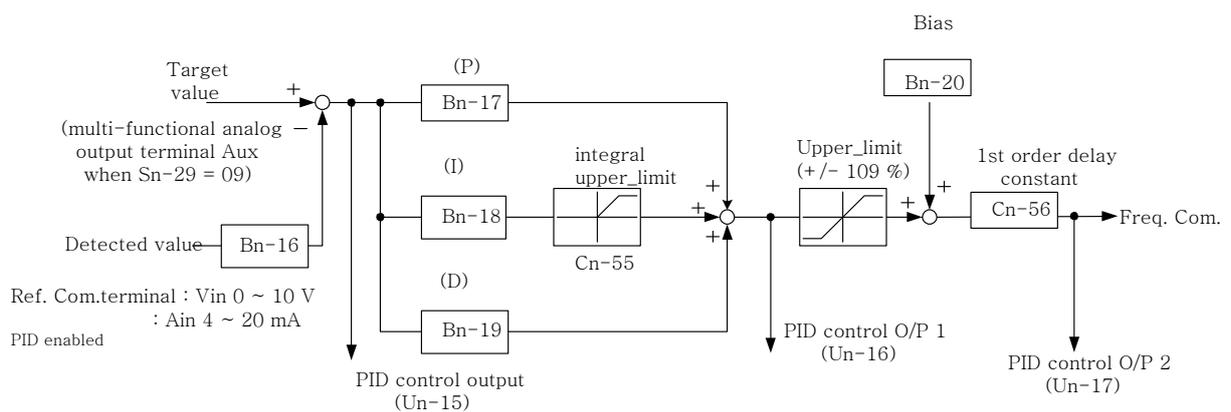

Fig 14 Block diagram for PID control in inverter
(14) Multi-function Analog output A01 gain (Bn-14)
(15) Multi-function Analog output A02 gain (Bn-15)
(16) PID detection gain (Bn-16)
(17) PID Proportional gain (Bn-17)
(18) PID integral time (Bn-18)
(19) PID differential time (Bn-19)
(20) PID Bias (Bn-20)
- The PID control function matches a feedback value (i.e., a detected value) to the set target value. Combining the proportional (P), integral (I) and derivative (D) control make the control possible to achieve required response by constant setting and tuning procedure of proportional gain (P), integral time (I) and derivative time (D).
- Fig 14 is a Block diagram of the inverter's internal PID control.